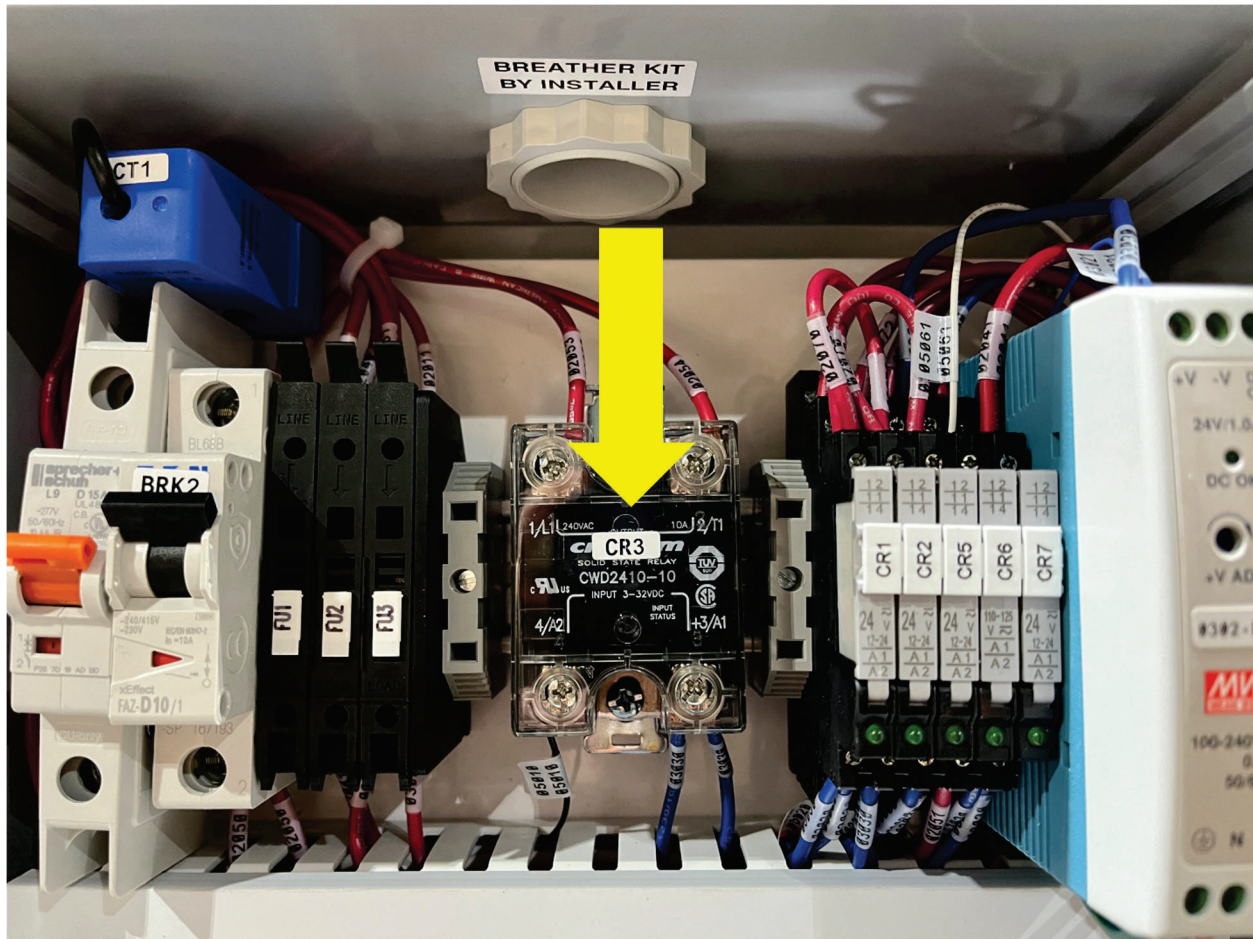

Figure 9-4: Vacuum Pump Solid State Relay
4. Find the Vacuum Pump solid-state relay (see **Figure 9-2, item #19**) and note the wire numbers and locations. **See Figure 9-4.**
5. Using a screwdriver, remove the five wires from the four terminals. **See Figure 9-4.**
- See Figure 9-4.
3. Reinstall the wires to the appropriate contacts. The bottom VDC wires must be installed as shown in **Figure 9-4** because of polarity.